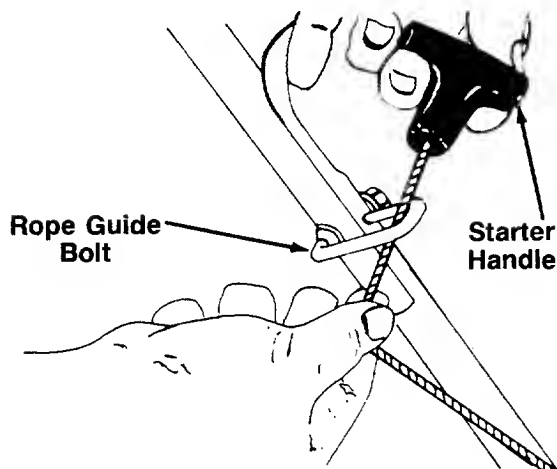

FIGURE 11.
3. Slip the starter rope into the rope guide bolt as shown in figure 11.